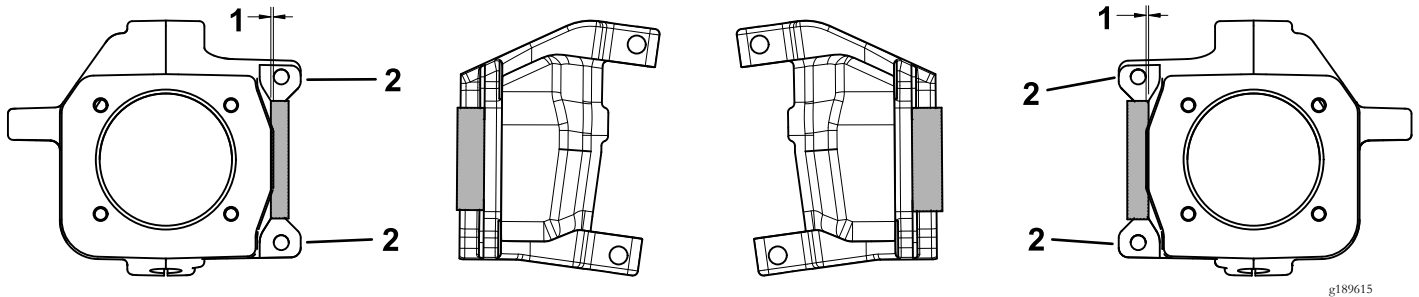

Figure 7
1. Grind 1.78 mm (0.07 inches) relief into the right and left steering knuckles as shown in Figure 7.
**Important:** Do not grind the surfaces shown in Figure 7.
2. Grind 0.76 mm (0.03 inches) relief into each side of the rear axle as shown in Figure 7.